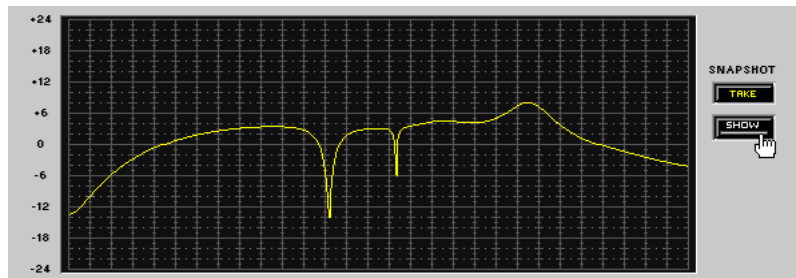

Figure 26 – Hiding the Snapshot
4. Click the [SHOW] button again to toggle the snapshot off and on, as pictured on the right in figure 26.